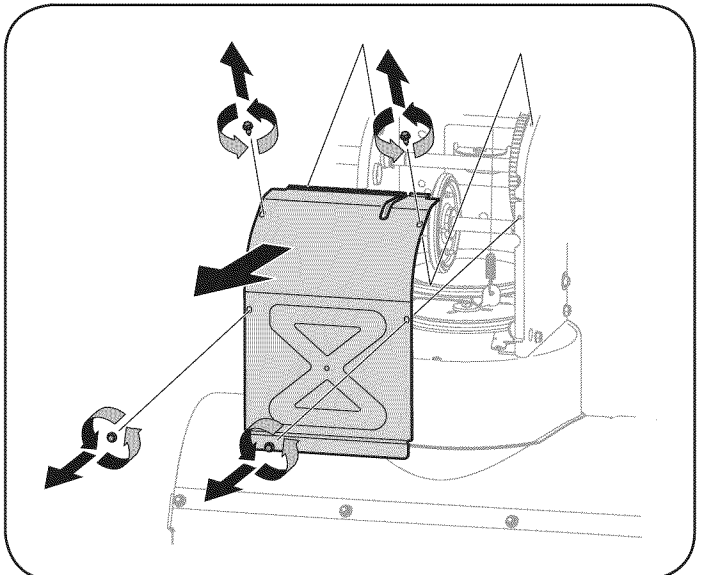

Figure 26
6. Remove the frame cover from the underside of the snow thrower by removing the self-tapping screws which secure it. See Figure 26.